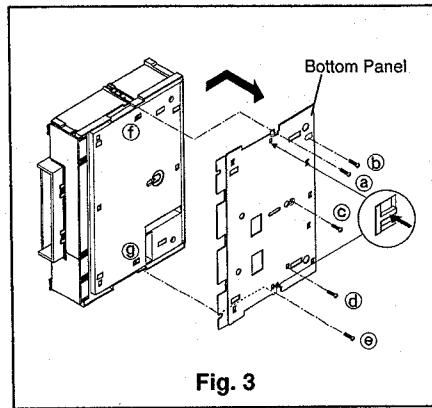

Fig. 3
- ① Remove five fastening screws (Ⓐ~Ⓔ) shown in Fig. 3.
- ② Push the two inside hooks (Ⓕ and Ⓛ), holding the Bottom Panel and slide the Bottom Panel toward the rear to remove it.